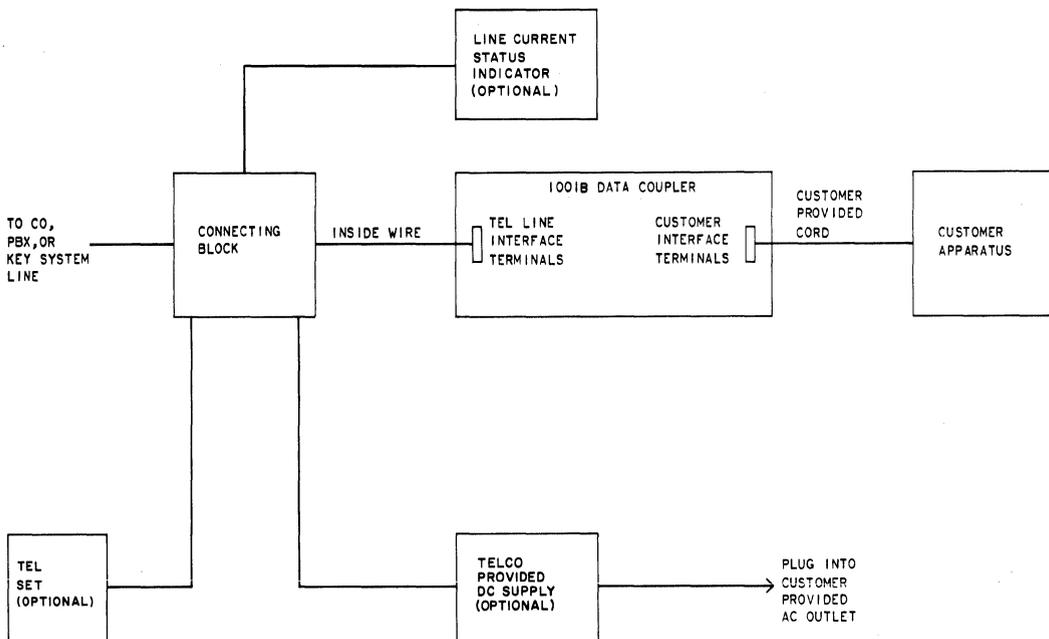

Fig. 12—Block Diagram of Typical 1001B Data Coupler Installation
- (1) For all analog modems, Type II requirements should be specified.
- (2) For all other modems, requirements based on speed of modem (same as for switched DATA-PHONE service) should be specified.
- (3) If the type of modem is known to be similar to a Bell System DATA-PHONE data set, use the requirements for that particular data set.
**4.03** Installation of the coupler should comply with general practices to ensure an orderly station arrangement. Information relating to a selection or type of connecting block and electrical code requirements is given in Section 590-010-200. See Fig. 12 for a typical interconnection block diagram.